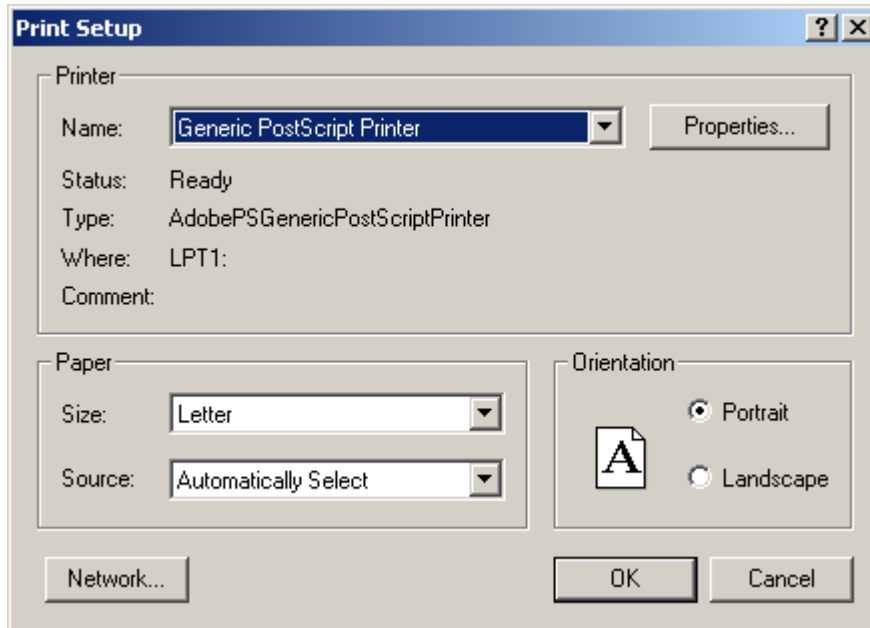

Figure 3-18: Print Setup Window
3. Your pc's standard *Print Setup* window will appear (see Figure 3-18) and you can select certain properties about the print job such as the destination printer, or whether to print in portrait or landscape formats.